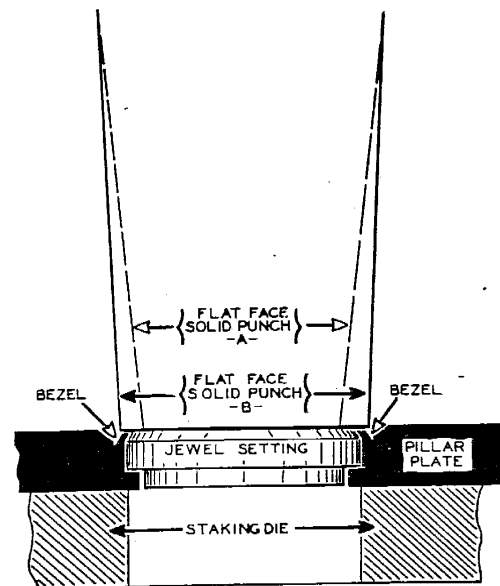

FIG. 12-15
8. Press setting in place with flat face solid punch which is slightly smaller in diameter than the bezel (A—figure 12-15).
9. Select flat face solid punch slightly larger than the diameter of setting and tap slightly. This will force edge of bezel over jewel setting (B—figure 12-15).